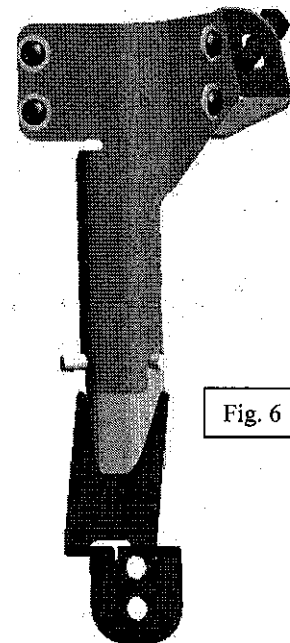

Fig. 6
2. Align the driver striker mount bracket with the striker mount bracket as shown in Fig. 6. Apply 1/8" rubber cushion in between the driver striker mount bracket and the frame bar.